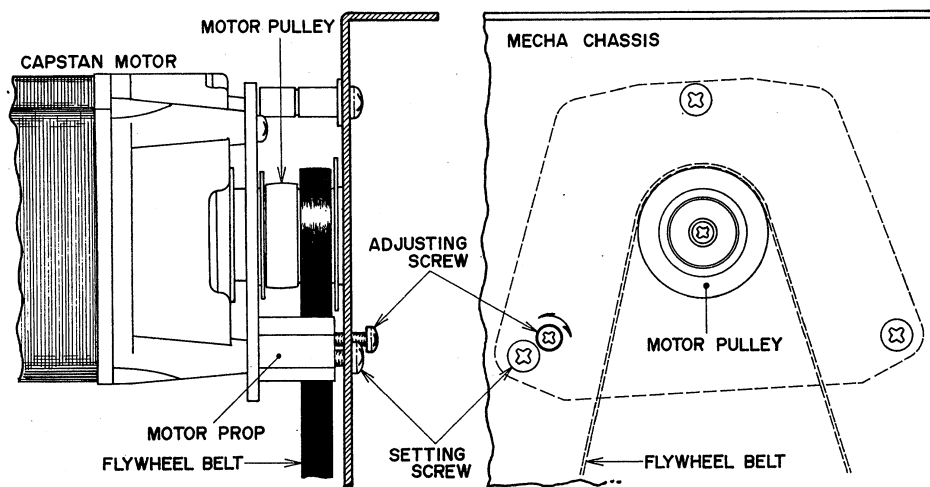

Fig. 17
- 1) With capstan motor revolutions' operating at Rev. mode, loosen setting screw and turn flywheel belt position adjustment screw until the flywheel belt comes to the center of the motor pulley. (Refer to Fig. 17)